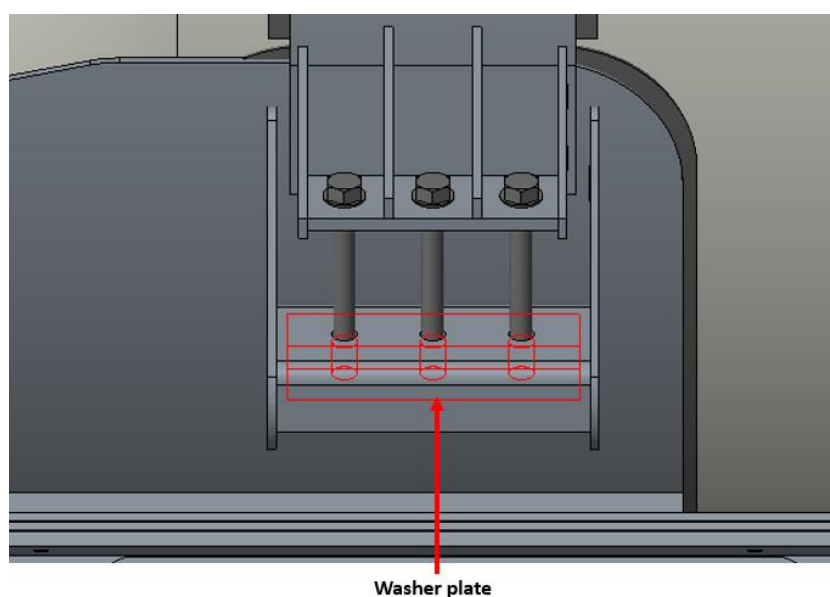

Figure 4: Location of 1" thick washer plate relative to cradle harness channel
4. Test fit the 1" thick washer plate (Option 1) or one of the two 1/2" thick washer plates (Option 2) ensuring the washer plate sits flush with the bottom face of the cradle harness channel. If required, chamfer the edges of the washer plate. Refer to Figure 4 for washer plate location.